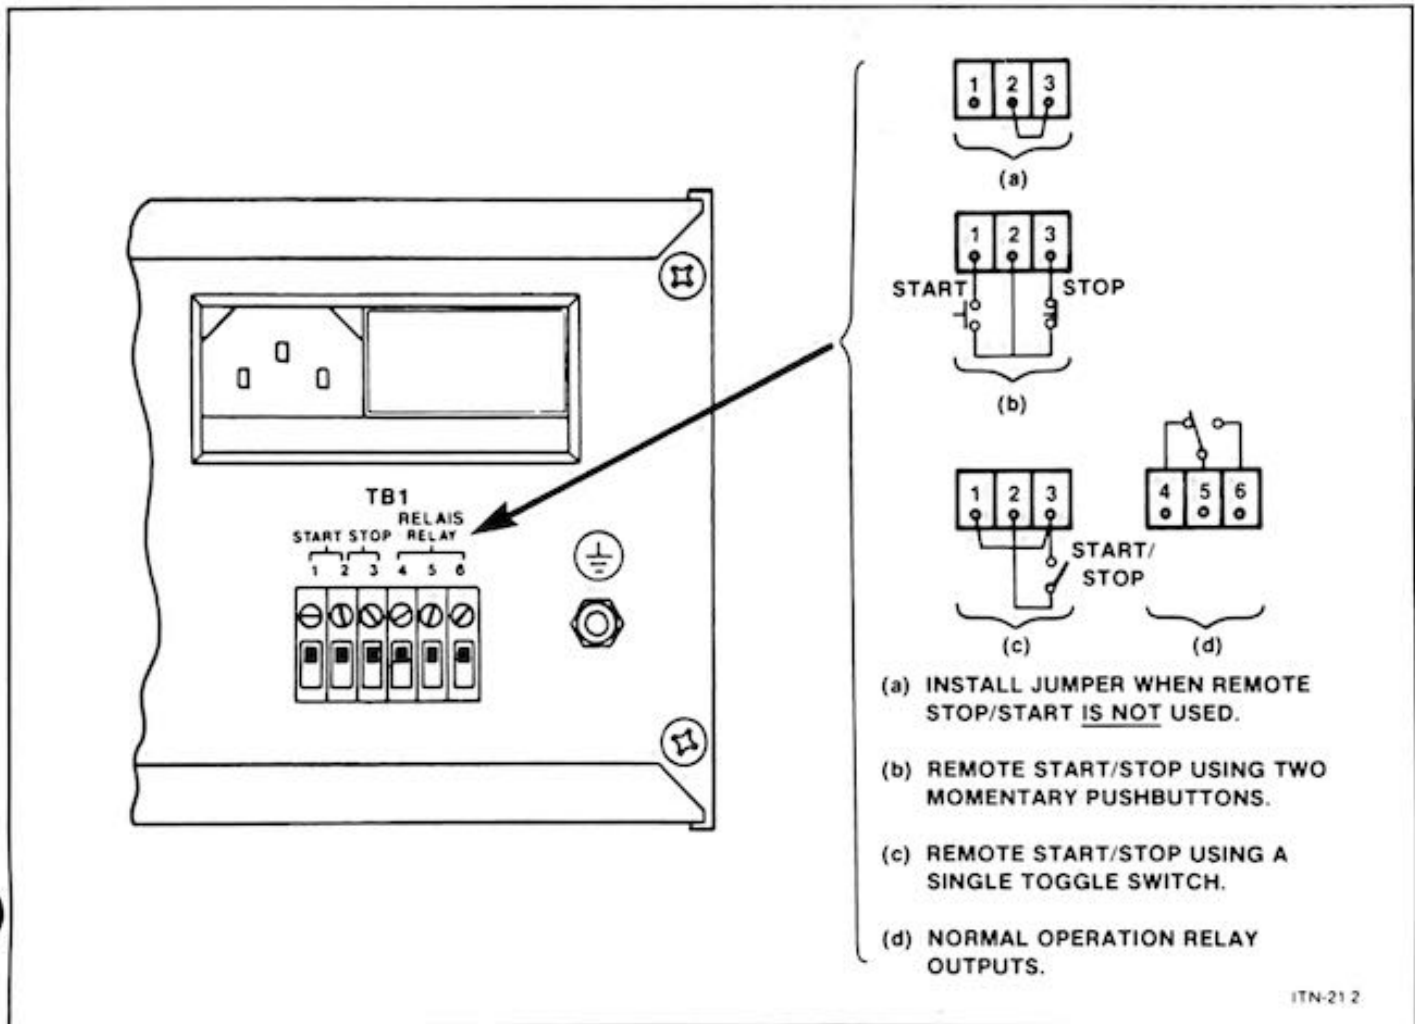

Figure 2-2. Rear Panel Terminal Block (TB1) Wiring
If you DON'T wish to use the remote start-stop features, ensure that a jumper wire is connected between rear panel terminals TB1-2 and TB1-3. See Figure 2-2(a).
1. The first method uses two momentary pushbutton switches which function the same way as the converter's front panel START/STOP controls. This wiring arrangement uses a momentary switch closure to start the turbopump, and a momentary switch open to stop the turbopump. Note that a short term power failure will reset the converter and stop the turbopump. Wire according to Fig. 2-2(b).
2. The second method uses a single toggle switch. With this wiring configuration, the turbopump starts when the switch is closed and stops when the switch is open. An advantage of wiring your system in this fashion is that following a short term power failure, the turbopump will automatically restart without operator involvement. Wire according to Figure 2-2(c).
Rear panel RELAY terminals TB1-4, -5, and -6 are connected to the normally-open and normally-closed contacts of a relay which is energized when the converter switches to normal operation. External indicating or control devices can be activated by these relay contacts which have a maximum rating of 8 amperes at 240 V AC and 24 V DC. See Figure 2-2(d).